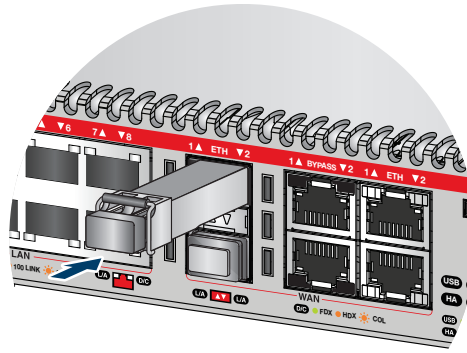

Figure 19. Installing an SFP transceiver
4. Gently slide the transceiver into the slot until it clicks into place, as shown in Figure 19.